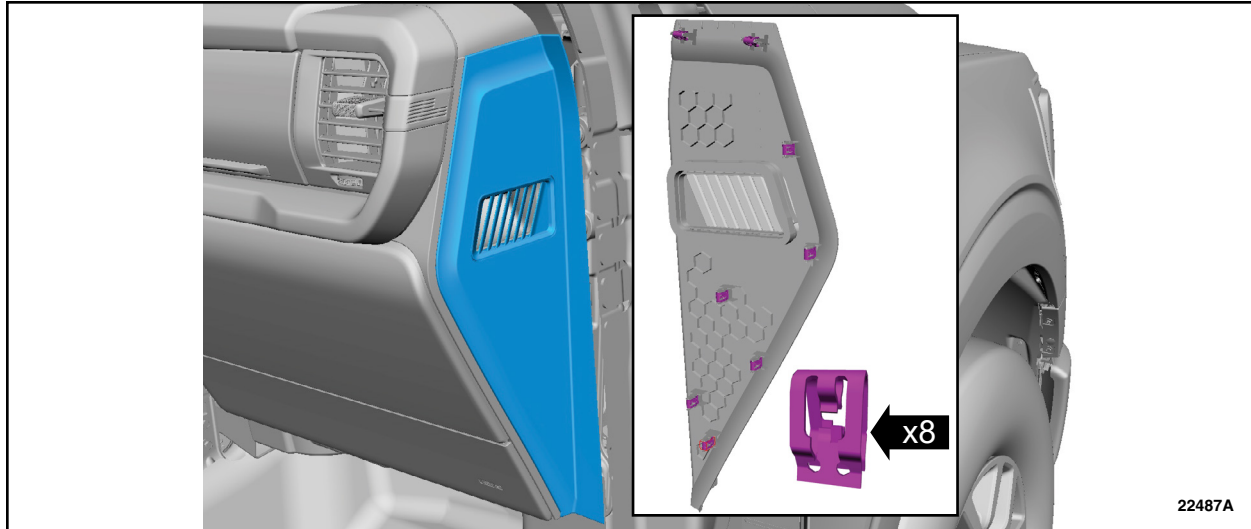

FIGURE 1
3. Release the clips and remove the Right Hand (RH) instrument panel trim panel. See Figure 1.